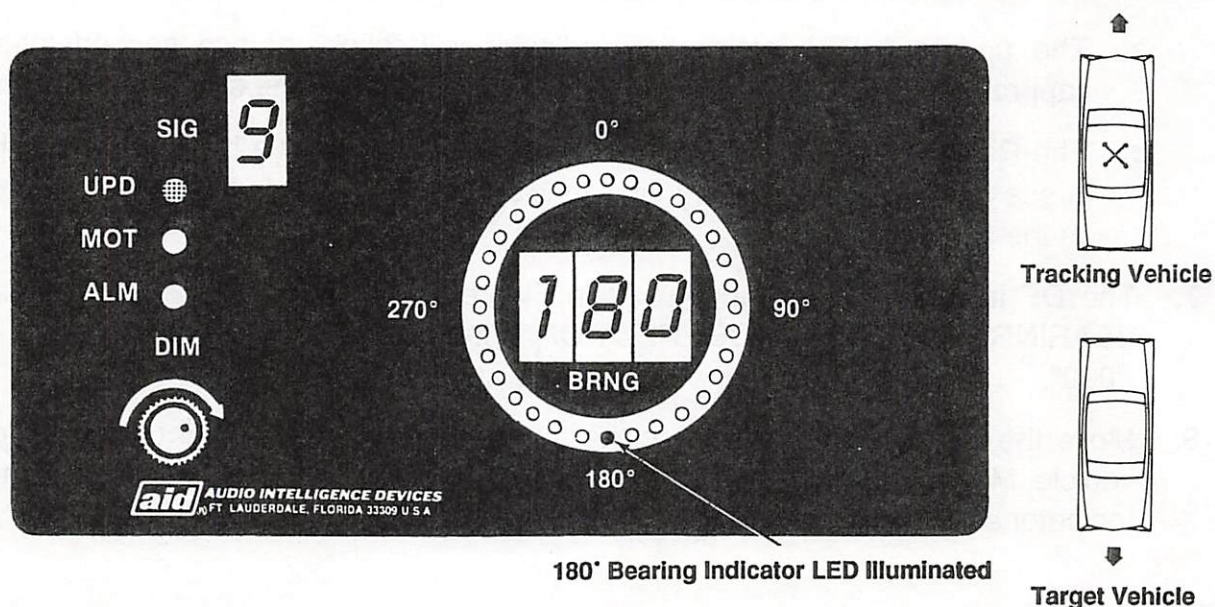

Figure 20. 180° Bearing Conditions
9. Move the tracking vehicle so that it is pointing away from the target vehicle. The DF Indicator should appear as in Figure 20 on the following page (180 ± 10 degrees).